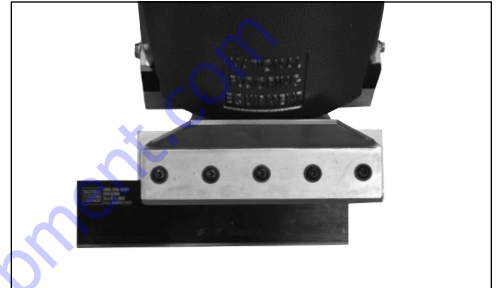

FIG. 5
- Blades can be offset in the cutting head for easier access to toe kicks or for removal along the wall (Figure 5).